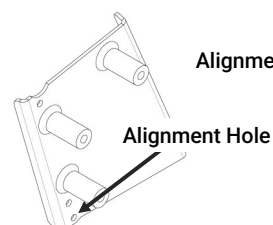
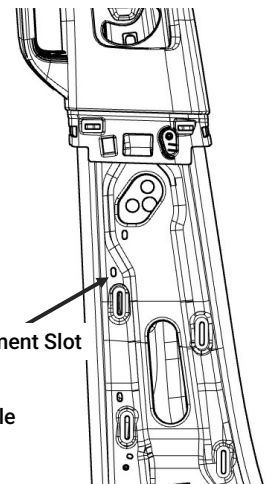

Figure 11a
Figure 11b
2. (1) of the [3X162] #14X3/4" self-drilling screws is used to set the height of the bracket. Insert a screw through the lowest hole on the bracket (Fig 11a) and into the slot that the wire clip was removed from (Fig 11b). The screw should be in the very bottom of the slot.
4. Secure the B-pillar bracket in place with a 3/8" socket and (4) [3X162] self-drilling screws. The holes can be pre-drilled with a 3/16" drill bit if necessary.